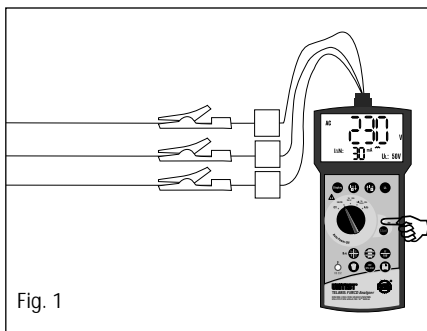

Fig. 1
-  Select measurement function using the function selection switch (31).
-  Connect test lead /mains connection lead to the UUT, as described in figure 1 or 2.
- ▶ Connect test lead / mains connection cable to the UUT, as described in figure 1 or 2.
- ▶ Select desired measurement function Vc/RE using function selection switch (31).
- ▶ Set nominal residual current selection (20) to desired nominal current (depending on RCD).
- ▶ Select Limitvalue via contact voltage using key "Vc/UL" (19).
- ▶ Touch contact electrode PE (21). Note display.
- ▶ Select desired measurement function tRCD/UB using function selection switch (31).
- ▶ Set phase position using key 0° / 180° (24).
- ▶ Set current type (23) and multiplication factor using key (30).